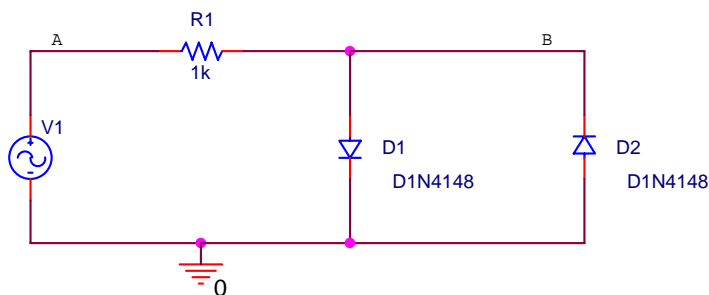

Figure B-9
- Draw the circuit shown in figure B-9.